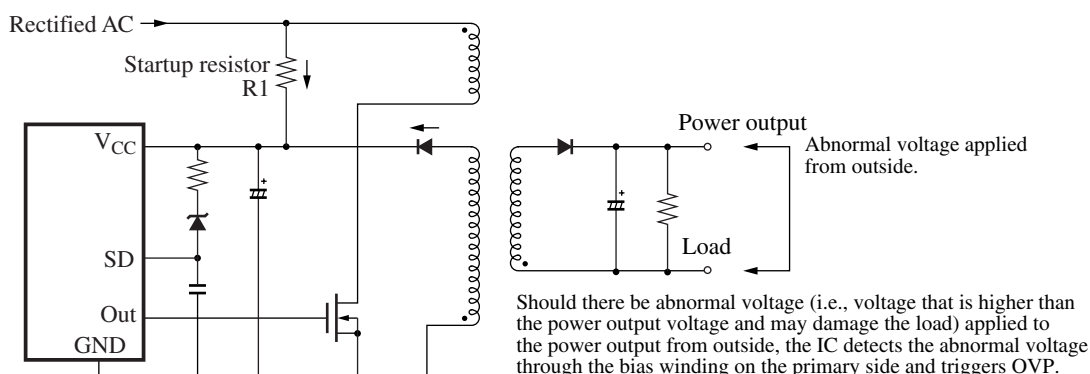

Figure 22
OVP stands for overvoltage protection. The overvoltage protection circuit is a self-diagnostic function that shuts down the power supply to protect the load if a voltage that is significantly and abnormally higher than the normal output voltage occurs in the power supply output, due to, for example, a malfunction in the control system or an abnormal voltage applied externally. (Refer to figure 22.)
- 1) If, as a result of an abnormality in the power supply output, the voltage input to the V_{CC} pin exceeds the threshold value (20.5 V typical), the IC internal reference voltage is shut down, and all control operation is stopped. The IC then holds this state. If latching at a voltage lower than the threshold value is required, connect a Zener diode between the V_{CC} and SD pins as shown in figure 22 and take method 2) below to set the voltage.